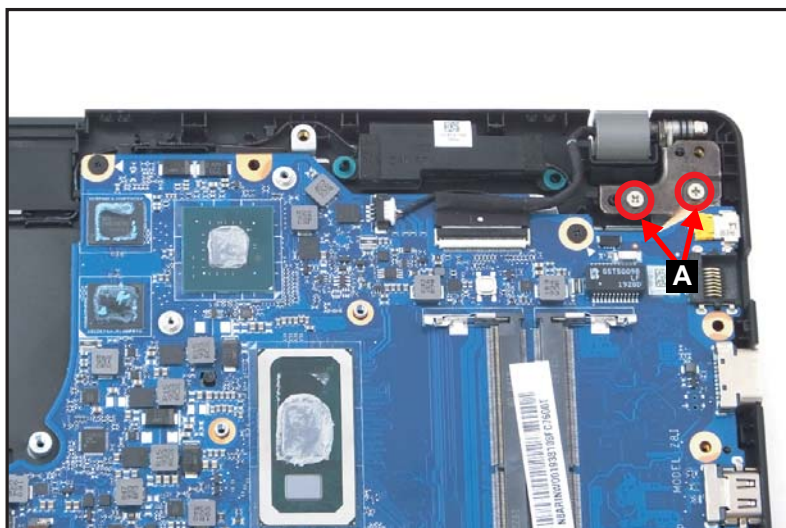

Figure 1-35. Mainboard Removal
1. Remove two (2) screws (A) securing the right side of LCD hinge in place (Figure 1-35).